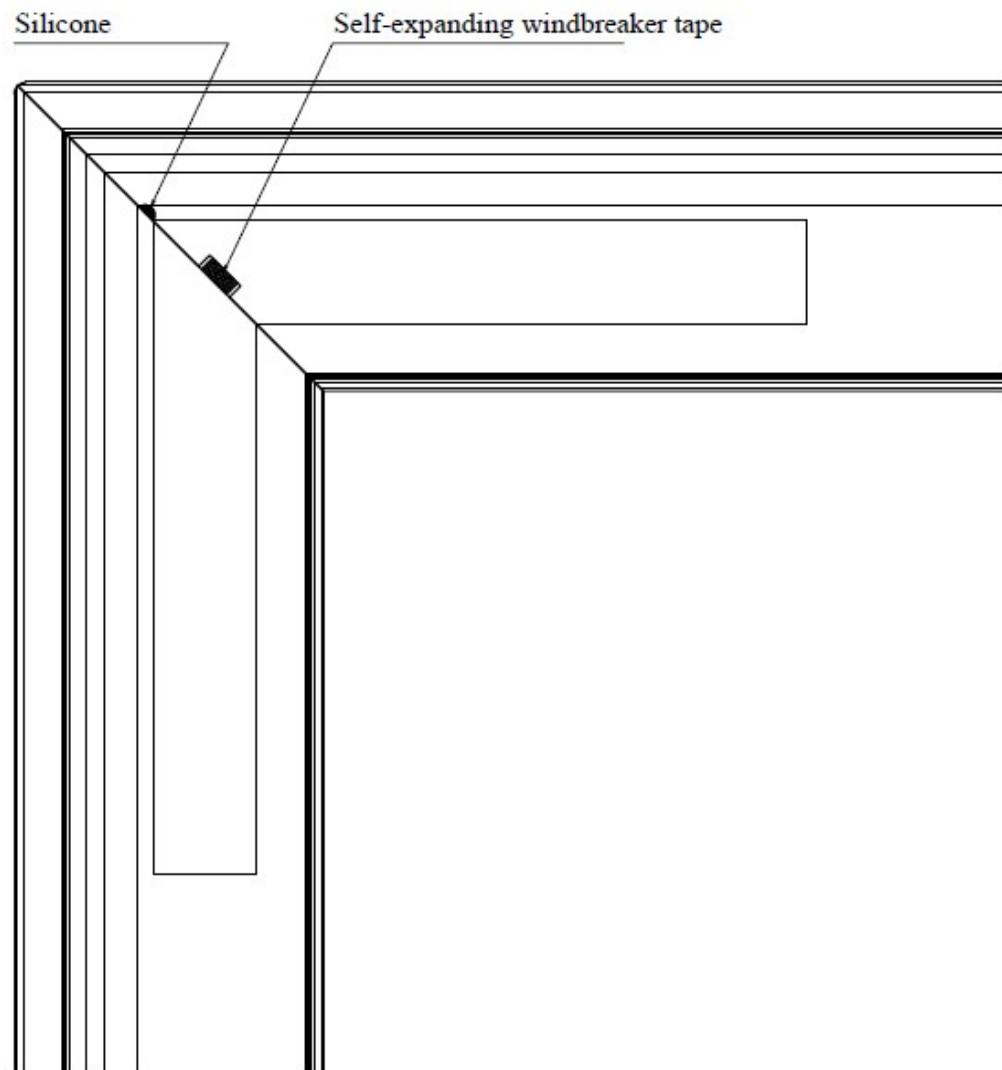

Figure 25. Sealing the frame parts.
16. The distance between the sashes shall be equal, from inside 4 mm and from outside 5 mm. Check with the help of wedges with a suitable size. If necessary adjust the position of sashes. For adjusting from the side of hinges use 4 mm Allen key (see Figure Adjusting 22 ROTO Patio 6080 with an Allen key) and for adjusting from the side of a bottom roller use 17 mm open-end spanner and 4 mm Allen key. See Figure 25 Adjusting ROTO Patio 6080 with an open-end spanner.